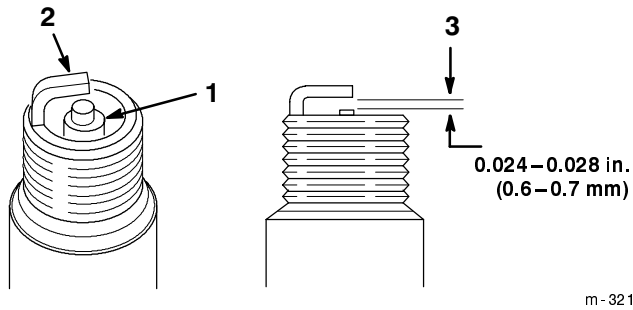

Figure 35
1. Look at the center of the spark plugs (Fig. 35).
2. Check the gap between the center and side electrodes (Fig. 35).
3. Bend the side electrode (Fig. 35) if the gap is not correct.